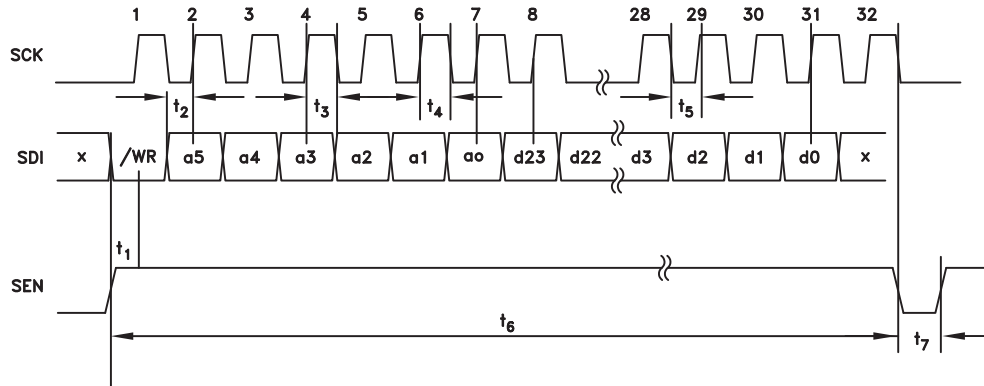

Figure 15. Serial Port Timing Diagram - Write Serial Port WRITE Operation
A typical WRITE cycle is shown in Figure 15.
- The Master (host) asserts both SEN (Serial Port Enable) and SDI to indicate a READ cycle, followed by a rising edge SCK. Note: The Lock Detect function is multiplexed onto the LD_SDO pin. It is suggested that lock detect (LD) only be considered valid when SEN is low. In fact LD will not toggle until the first active data bit toggles on LD_SDO, and will be restored immediately after the trailing edge of the LSB of serial data out as shown in Figure 15.
- The slave (synthesizer) reads SDI on the 1st rising edge of SCK after SEN. SDI high initiates the READ cycle (RD).